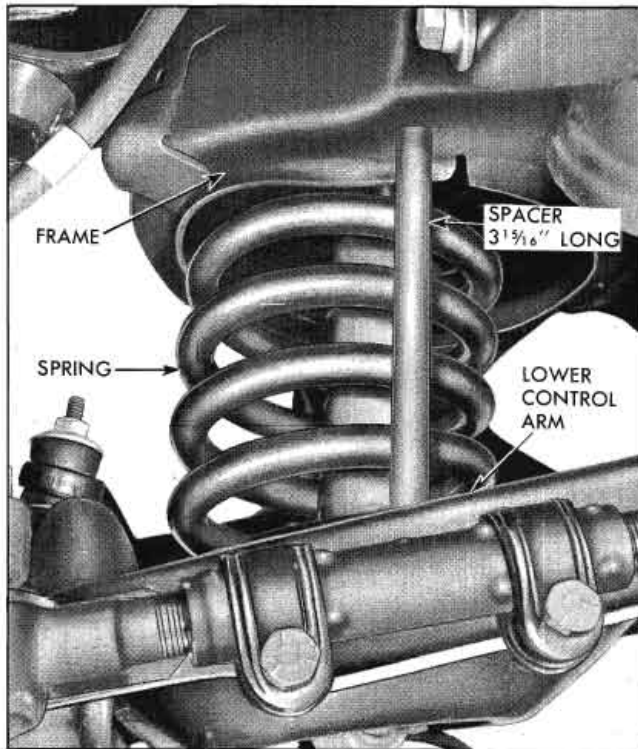

Fig. 3-10 Spacer Inserted to Set Front Suspension
1. At front, measure height from top of lower control arm to underside of frame at a point directly behind center line of spring. (See SPECIFICATIONS and Fig. 3-10).
The tendency to remain upward or downward will be more noticeable on new cars on which the suspension joints have not yet become burnished and completely free. For this reason, checking of caster and camber on new cars should not be done unless the *height is set* to correspond with the height of the front end of a similar model which has freed up after usage.—(See SPECIFICATIONS and Figs. 3-10 and 3-11). Blocks, or spacers made of rod or tubing, will be useful in positioning parts.